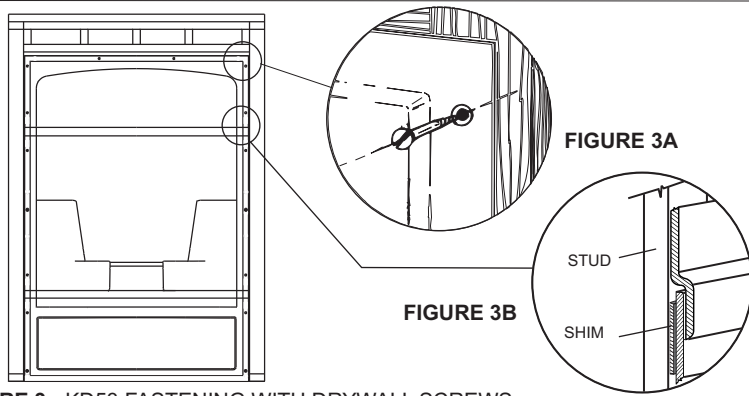

FIGURE 3 - KD53 FASTENING WITH DRYWALL SCREWS
- The shower is fastened in place using dry wall screws. Holes are to be drilled in the flange on both sides and across the top. The holes are to be drilled by the installer, installation is illustrated in figures 3 and 3A.
10. Fasten the unit into the framed alcove by the recessed 2" x 2" around the periphery of the opening as illustrated in Figure 3, (2 vertical studs and 1 across the top).
- Marked by dimple holes along the flanges drill 3/16" hole on each dimple, 7 on each side flanges and 2 across the top flange. Refer to Figure 3.